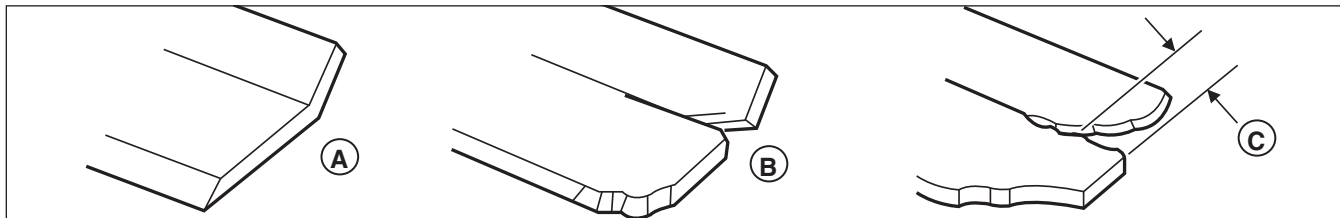

Figure 35. Inspecting the Mower Blade Air Lifts
- B.) The air lifts are excessively eroded (B & C, Figure 35) and the notch (C) is .25" (6,35 mm) deep or greater.